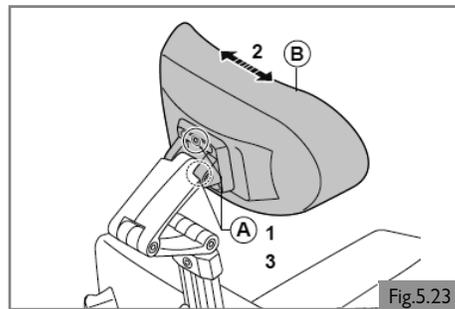

Fig.5.23
**Headrest cushion width (Fig. 5.23)**
1. Loosen (A) by one turn.
2. Adjust (B) to the desired position.
3. Tighten (A). See section 9 for specified torque values.